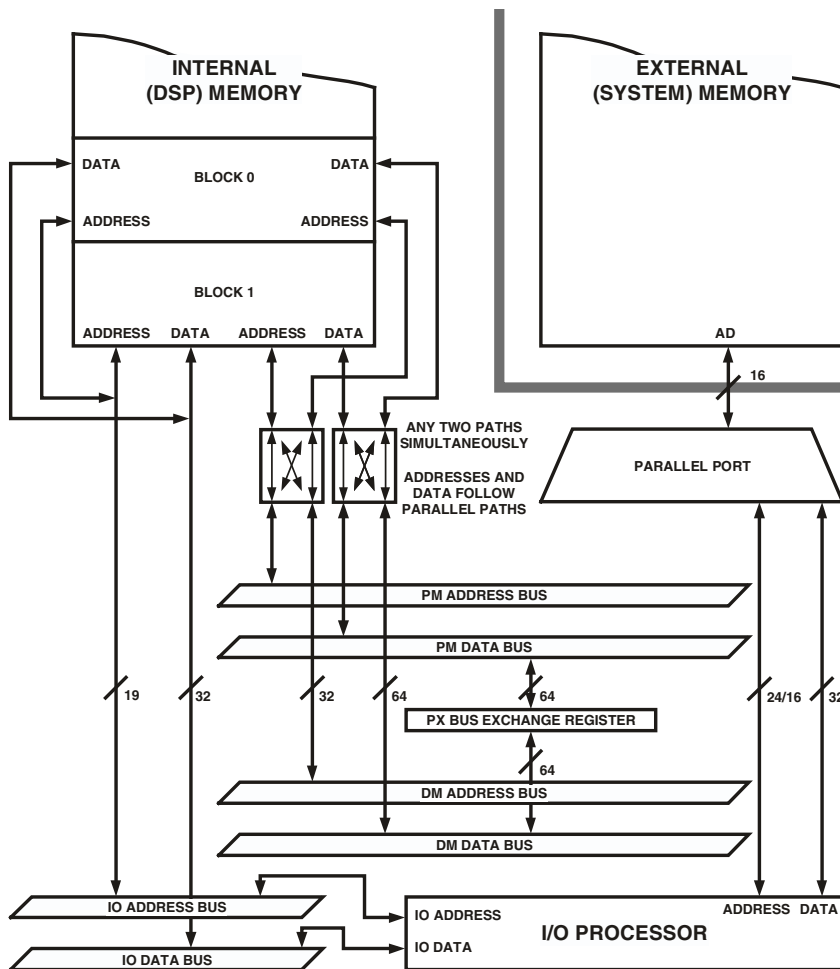

Figure 5-1. ADSP-21262 Processor Memory and Internal Buses Block Diagram
As shown in Figure 5-1, the processor has three sets of internal buses connected to its dual-ported memory, the Program Memory (PM), Data Memory (DM), and I/O Processor (I/O) buses. The PM and DM buses share one memory port and the I/O bus connects to the other port. Memory accesses from the DSP’s core (computational units, data address generators, or program sequencer) use the PM or DM buses, while the I/O
Figure 5-1 on page 5-5 shows that the PM and DM buses have access to internal memory.